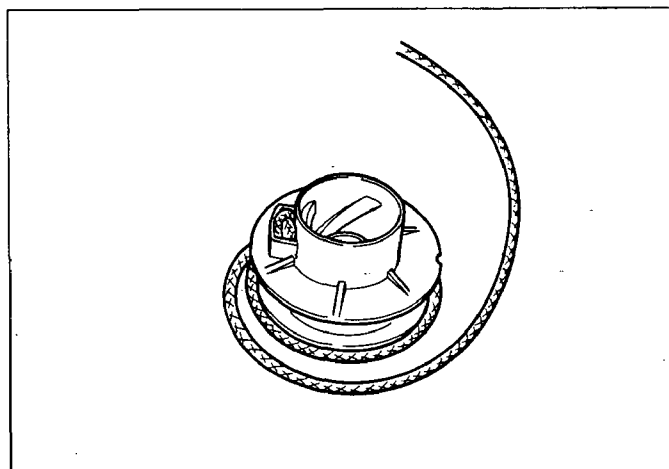

Fig. 25
- (3) Prior to installing reel in starter case, wind starter rope in reel for 2.5 turns in arrowhead direction as shown in Fig. 25.